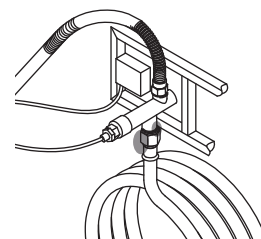

Figure 8
- Cevjo in plinskim vhodom naprave (glej Figure 8)